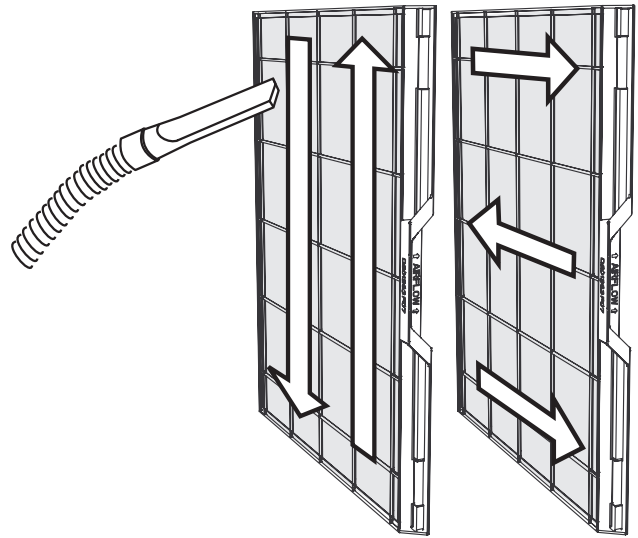

Fig. 7
1. Using a vacuum hose, vacuum in even strokes across the length of the PRE-FILTER. After vacuuming the entire PRE-FILTER using even strokes going in one direction, repeat the process using even strokes going in the opposite direction as shown in Figure 7.